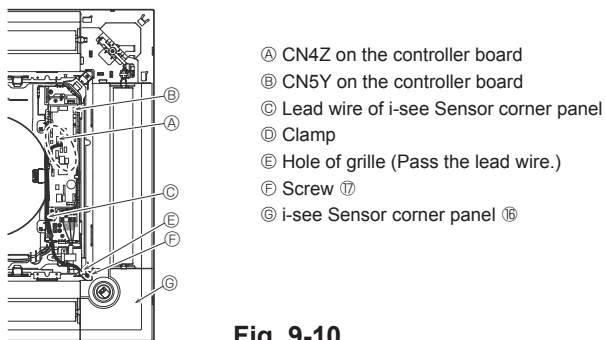

Fig. 9-10
9.4.6. Installation of i-see Sensor corner panel (Fig. 9-10)
- Route the lead wire connector (white, 4 poles and white, 5 poles) of the i-see Sensor corner panel (G) from the side of the electrical box on the main unit and connect to the connector CN4Z and CN5Y on the controller board.